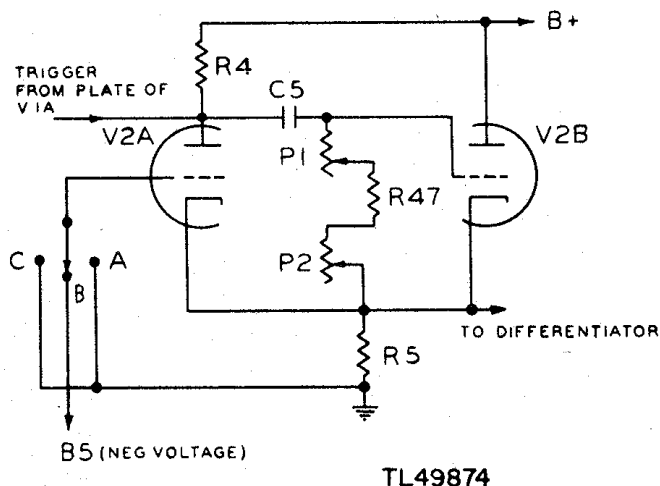

Figure 22 Delay multivibrator circuit
c. *Delay Multivibrator (fig. 22).*
(1) During the intervals between triggers, V2B is conducting; its grid is at zero potential with respect to its cathode. The plate current of V2B passing through RS biases V2A beyond cut-off. This situation is